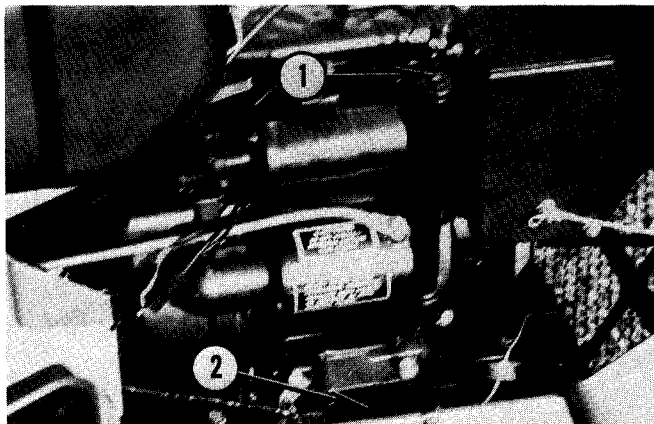

Fig. 15 — Engine Crankcase Lubrication
CHECK CRANKCASE — FIG. 15
1. Remove crankcase drain plug, Fig. 15.
2. Replace drain plug and fill crankcase, Fig. 15, with SAE 30 oil, Service Class SE/CC (see Temperature Chart).